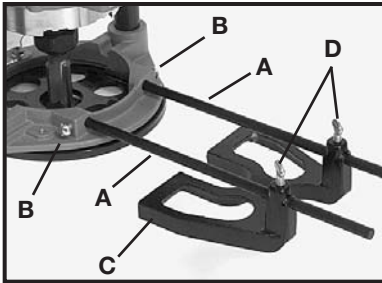

Fig. 23
To attach, insert guide rods (A) in holes in base Fig. 23, and secure with screws (B). The guide (C) is adjusted on the rods and secured the desired position with thumb screws (D).